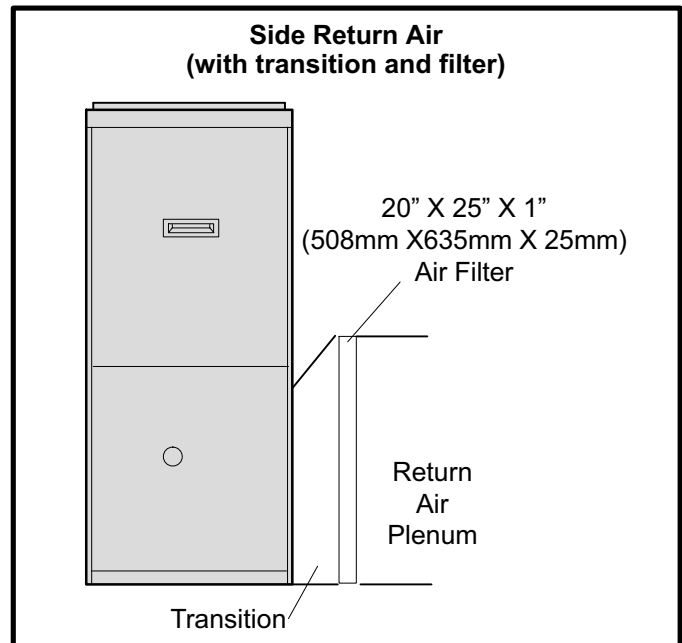

FIGURE 9
- 1 - Return air from single side with transition which will accommodate 20 x 25 x 1 in. (508 x 635 x 25 mm) air filter. (Required to maintain proper air velocity.) See figure 9.